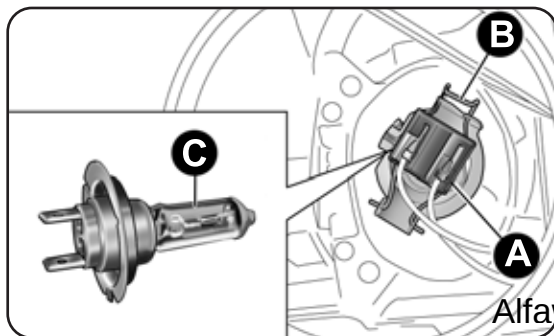

fig. 133
- remove the connector A-fig. 133, press the tab B forward and then release by pushing it towards the inside the car;